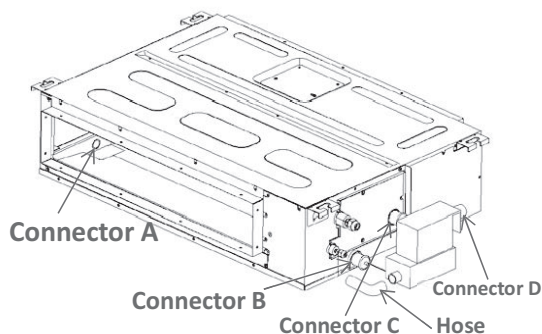

Fig. 42 —Condensate lift pump installation size 18K
- Connect the drainpipe to connector D (see Fig. 42).